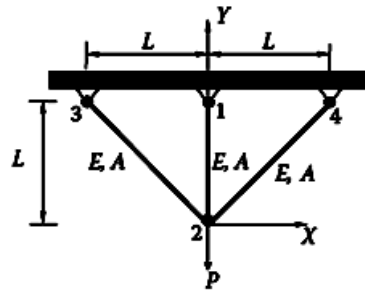

Figure 2
4. The plane truss is loaded with force P as shown in figure 2. Constants E and A for each bar are as shown in the diagram. Determine the nodal displacements, the reaction forces and the stresses in bar elements. [10]